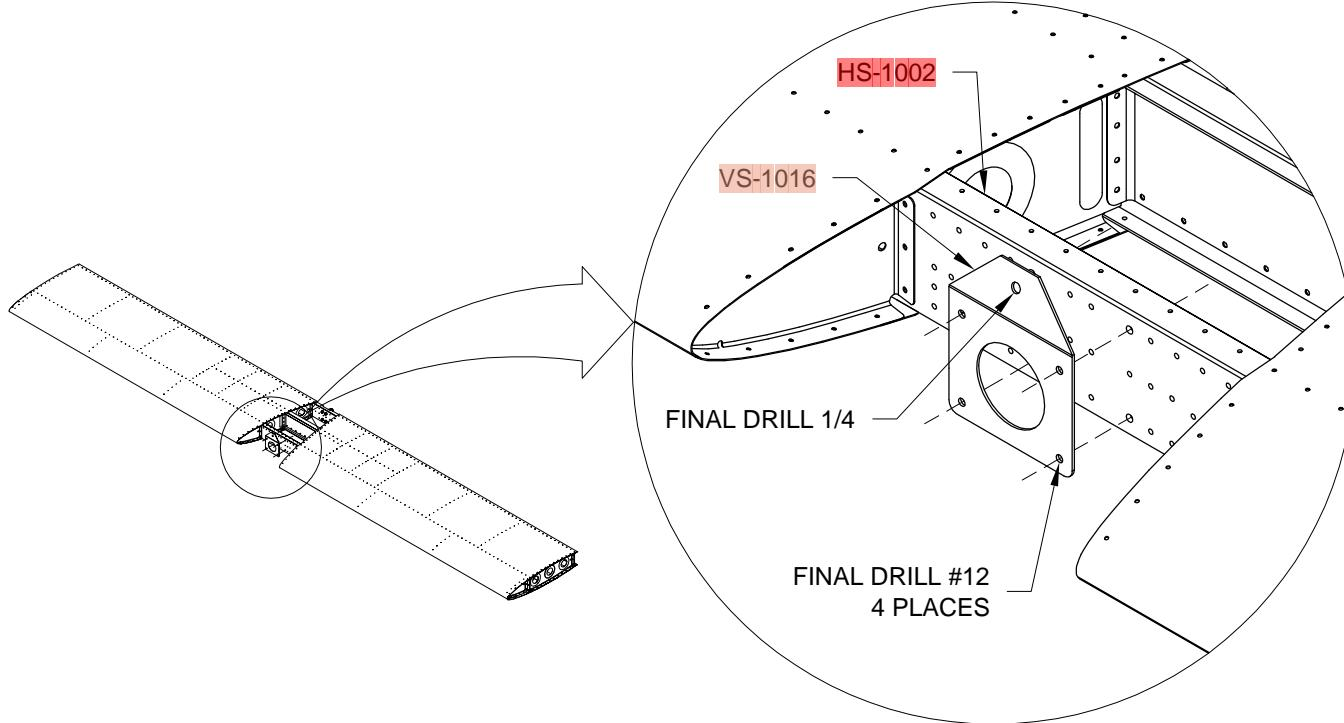

FIGURE 1: DRILLING VERTICAL STABILIZER FRONT SPAR ATTACH BRACKET WITH SPAR
Step 1: Final-drill 1/4" the vertical stabilizer attach hole in the VS-1016 Vertical Stabilizer Front Spar Attach Bracket as shown in Figure 1. Final-Drill #12 the four holes common to the vertical stabilizer front spar attach bracket and the HS-1002 Front Spar. Deburr the holes and set the bracket aside for now.